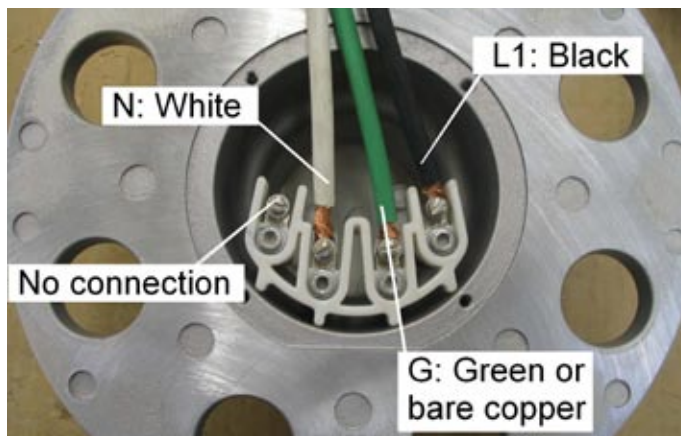

Fig. 4c Wire run to the yaw connection (120 V, 60 Hz, single phase).
- **120 V, 60 Hz, 1 Phase Systems:** Connect the black and white wires to the corresponding color coded terminals on the Skystream yaw. Connect green or bare copper wire to green terminal. There is no wire connection to bare yaw terminal as shown in **Fig. 4c**.